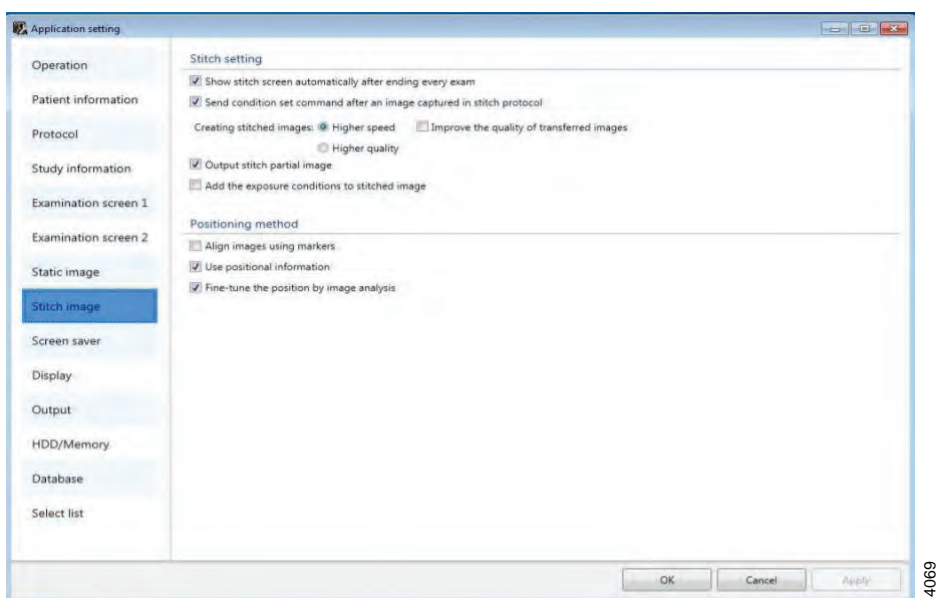

Fig. 5-17
3. Select **Stitch image** and confirm that settings are according to Fig. 5-17 .